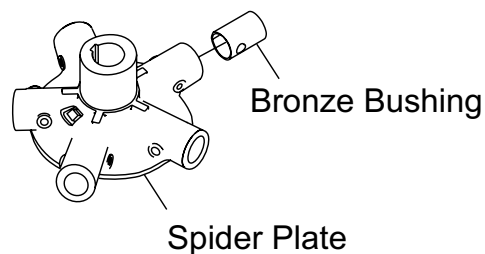

Figure 41. Bronze Bushings
5. Examine the bronze trowel arm bushing (Figure 41), and clean if necessary. Replace bushing if out-of-round or worn.